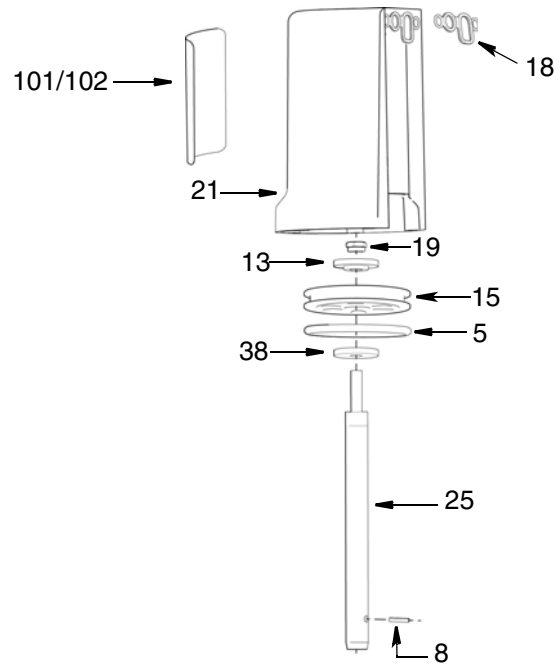

**FIG. 15**
**O-Ring and Seal Replacement Kit - 24H856 (FIG. 15)**